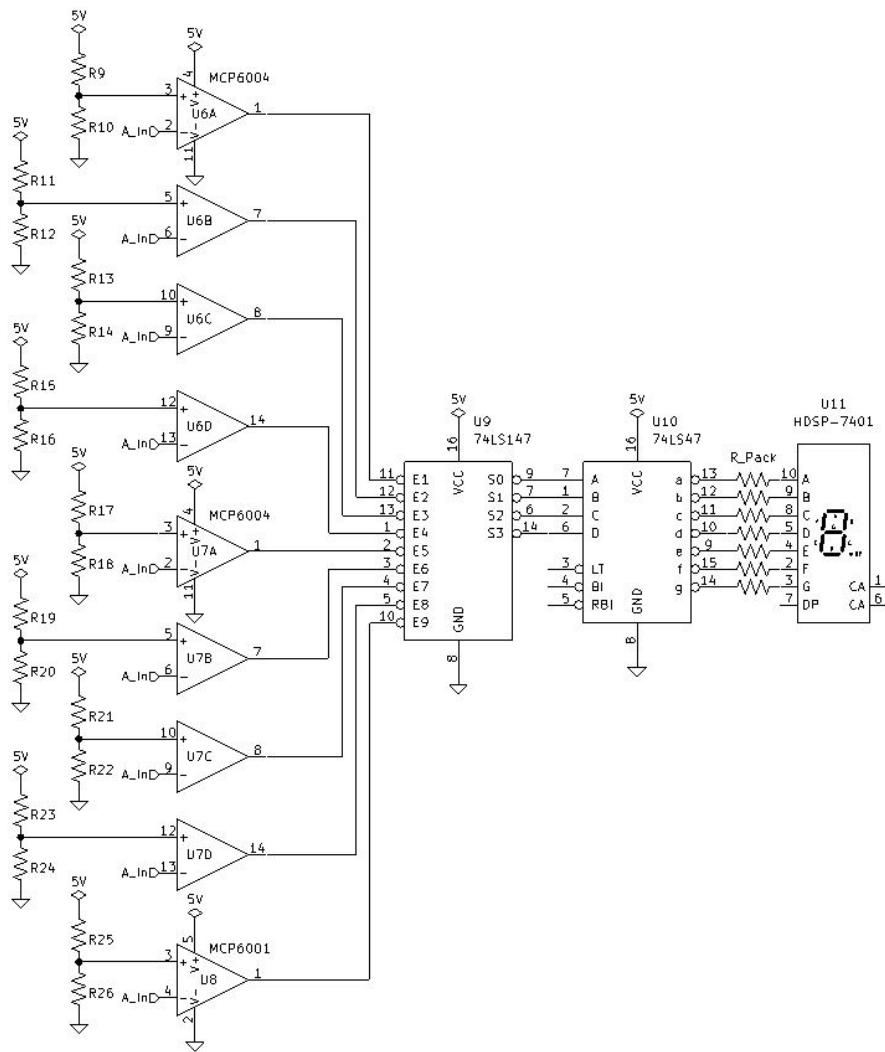

Figure 8.8: Design Test Circuit 2
- Identify each IC used in Figure 8.8 Design Test Circuit 2 and include the following.